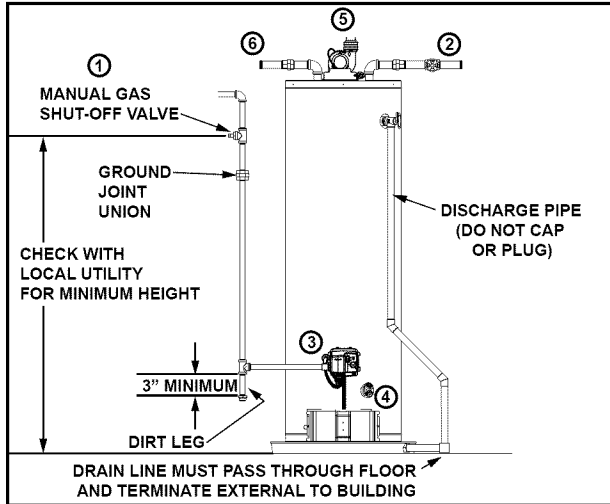

Figure 5
1. Turn "OFF" the gas supply to the water heater. If the main gas line shutoff valve serving all gas appliances is used, also shut "OFF" the gas at each appliance. Leave all gas appliances shut "OFF" until the water heater installation is completed. See Figures 5 and 6.
2. Open a nearby hot water faucet until the water is no longer hot. When the water has cooled, turn "OFF" the water supply to the water heater at the water shut off valve or water meter. Some installations require that the water be turned off to the entire house. See Figures 5 and 7.
4. Attach a hose to the water heater drain valve and put the other end in a floor drain or outdoors. (See Figures 5 and 8.) Open the water heater drain valve. The water passing out of the drain valve may be extremely hot. To avoid being scalded, make sure all connections are tight and that the water flow is directed away from any person.